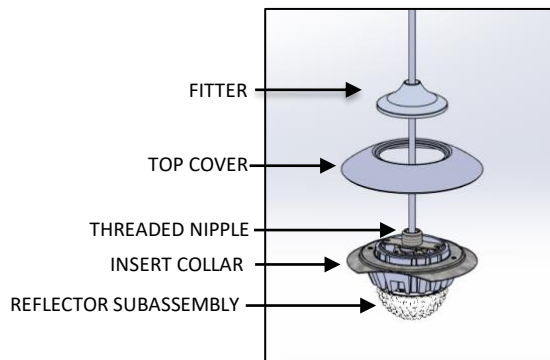

FIG. 27 - REFLECTOR DIS-ASSEMBLY
21. Unscrew the FITTER from THREADED NIPPLE and lift TOP COVER from the REFLECTOR ASSEMBLY as shown below in FIG. 27.